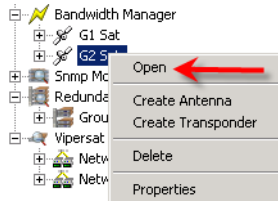

Figure 3-33 Satellite Open menu command
1. Right-click on the satellite in the tree view and select **Open** (figure 3-33).